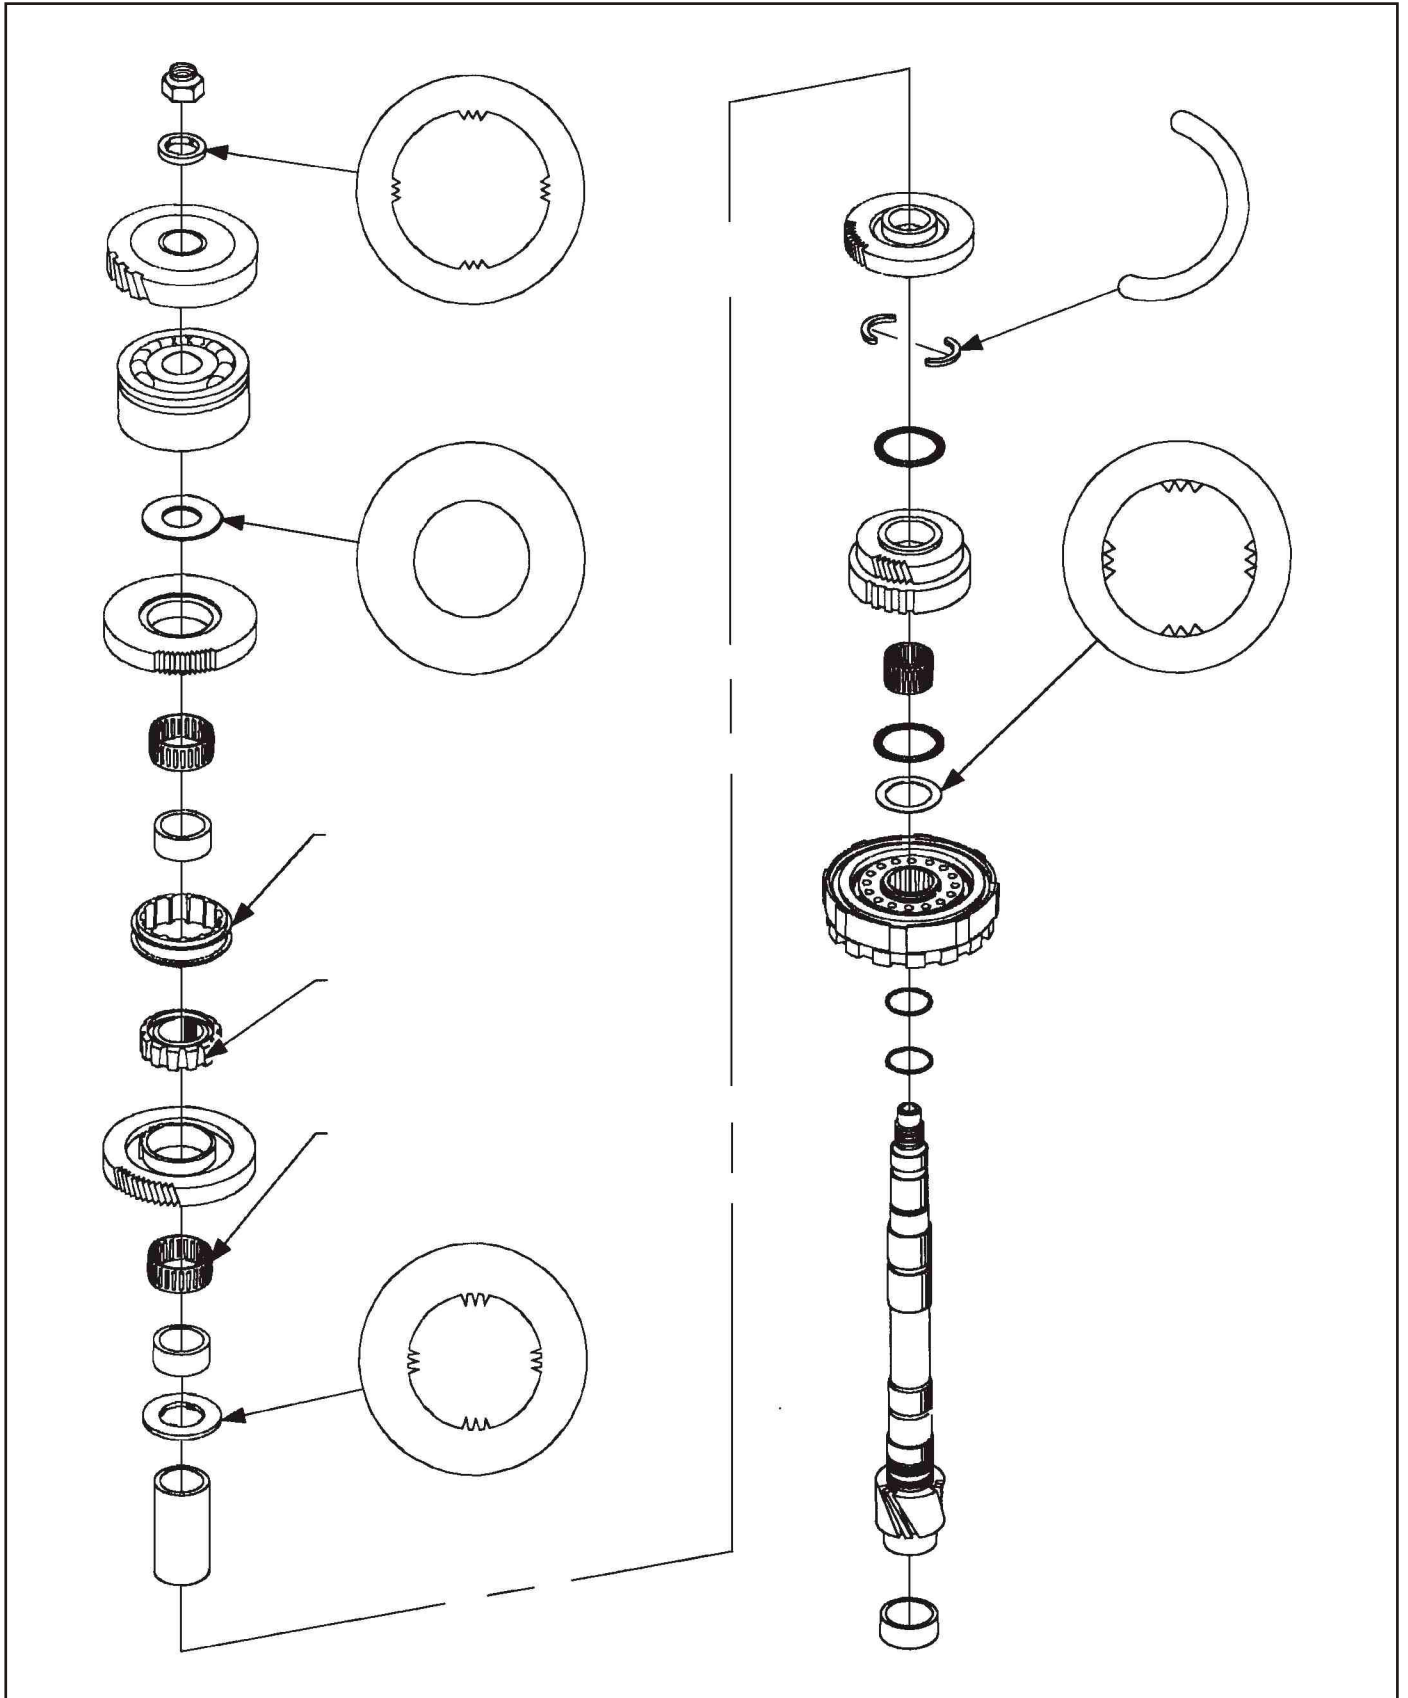

Figure 134
15. Install the Forward/Reverse dog clutch hub with the wide end of the slots facing the 2nd driven gear (See Figures 134 and 138).
16. Install the Forward/Reverse dog clutch sleeve with the groove on the outside of the sleeve facing the reverse driven gear (See Figures 134 and 138).